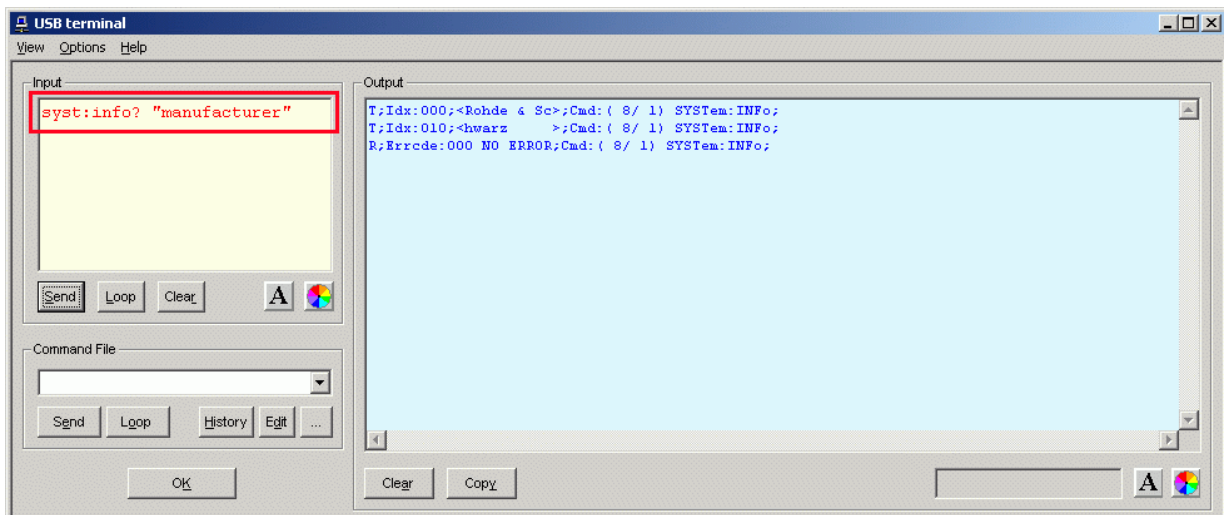

Fig. 3-1 Sending commands using the **Input** field
- Commands are entered in the **Input** field (Fig. 3-1). Consecutive commands can be entered as separate lines, one below the other. The buttons associated with the **Input** field are described in Table 3-1.